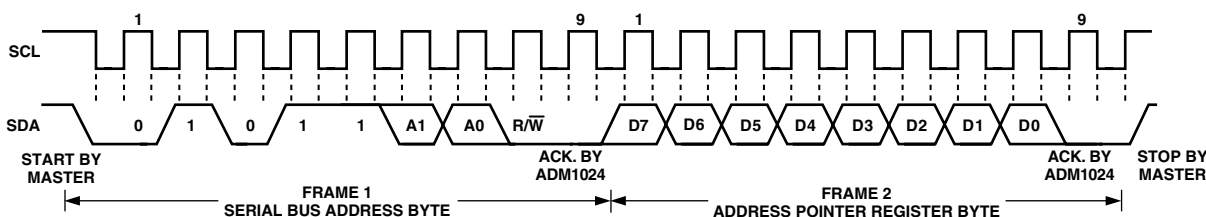

Figure 9b. Writing to the Address Pointer Register Only
1. If the ADM1024's Address Pointer Register value is unknown or not the desired value, it is first necessary to set it to the correct value before data can be read from the desired data register. This is done by performing a write to the ADM1024 as before, but only the data byte containing the register address is sent, as data is not to be written to the register. This is shown in Figure 9b.
- If the Address Pointer Register is known to be already at the desired address, data can be read from the corresponding data register without first writing to the Address Pointer Register, so Figure 9b can be omitted.